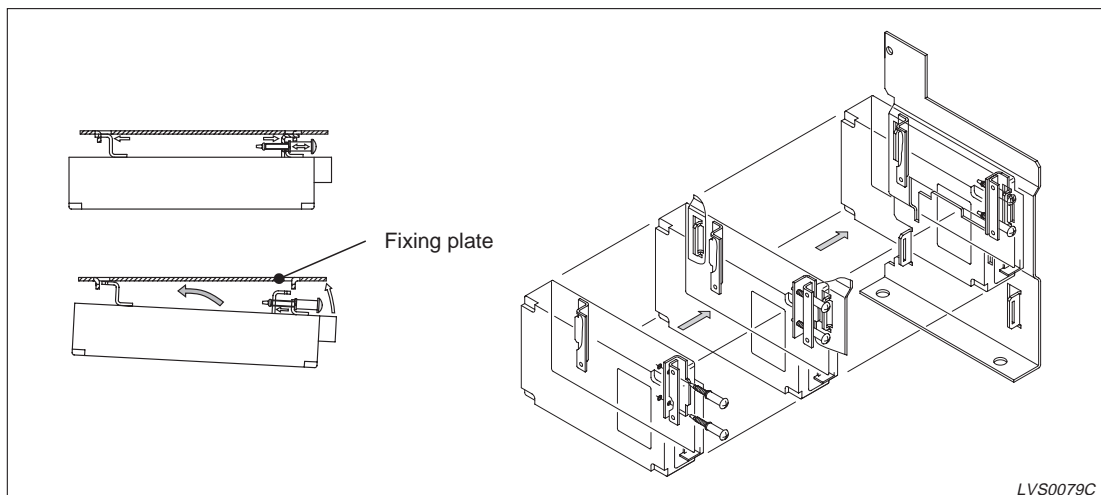

Fig. 4-13: Mounting the UVT controller
- ② Hold the UVT controller and loosen the two mounting screws. Release the fixing plate 2 (refer to fig. 4-13) from the side plate of the breaker, and remove the UVT controller.